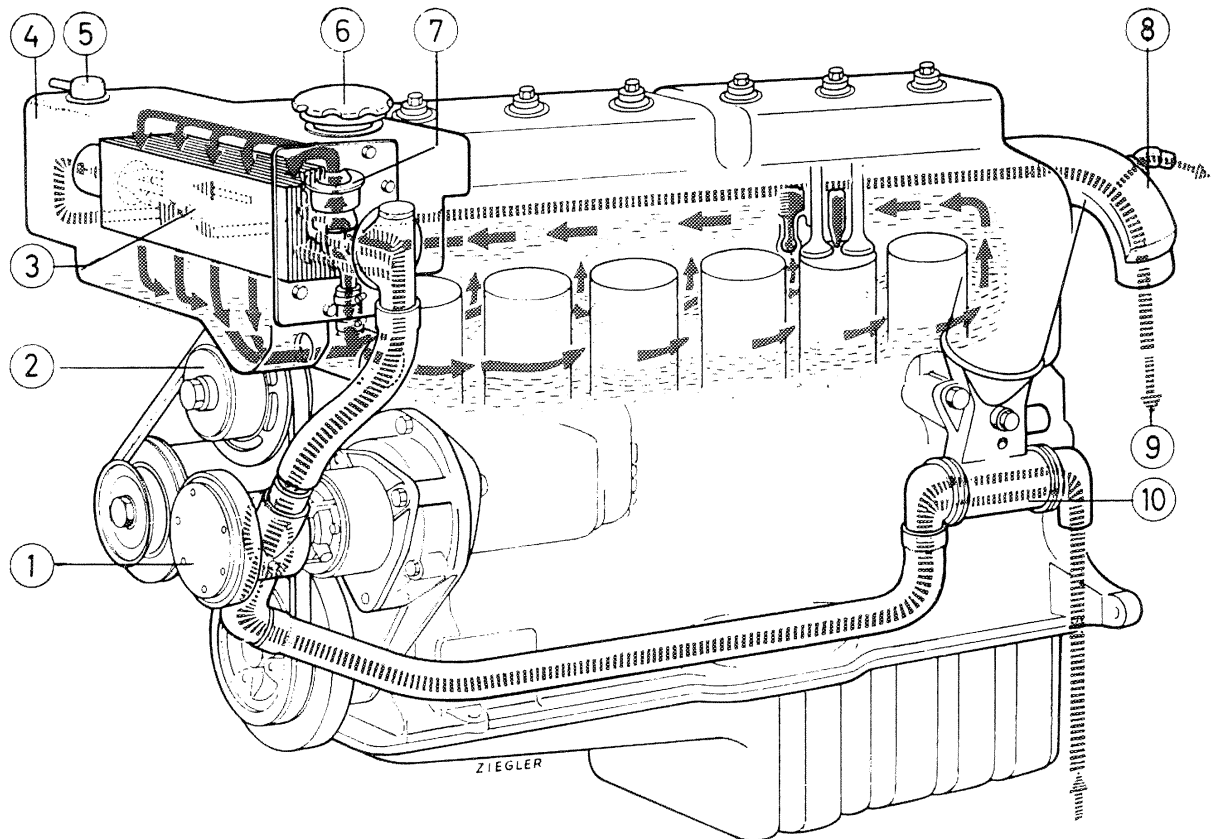

Fig. 16. Cooling system
The coolant circulation takes place by means of a pump fitted on the front of the engine (2, Fig. 16). The pump draws coolant from the lower part of the heat exchanger and forces it into the cylinder block. In the cylinder block the coolant first cools the cylinder liners and then passes to the cylinder head. The coolant then flows through a thermostat (7) to the upper part of the heat exchanger. In the heat exchanger (4) the coolant passes down through a tubular system, where it is cooled down by the sea-water.
The sea-water pump draws cooling water through the engine oil cooler and then feeds it through the heat exchanger and exhaust manifold cooling jacket to the exhaust bend (8, Fig. 16). Part of the outgoing water passes through the exhaust line for cooling this, and part is led through separate outlets.